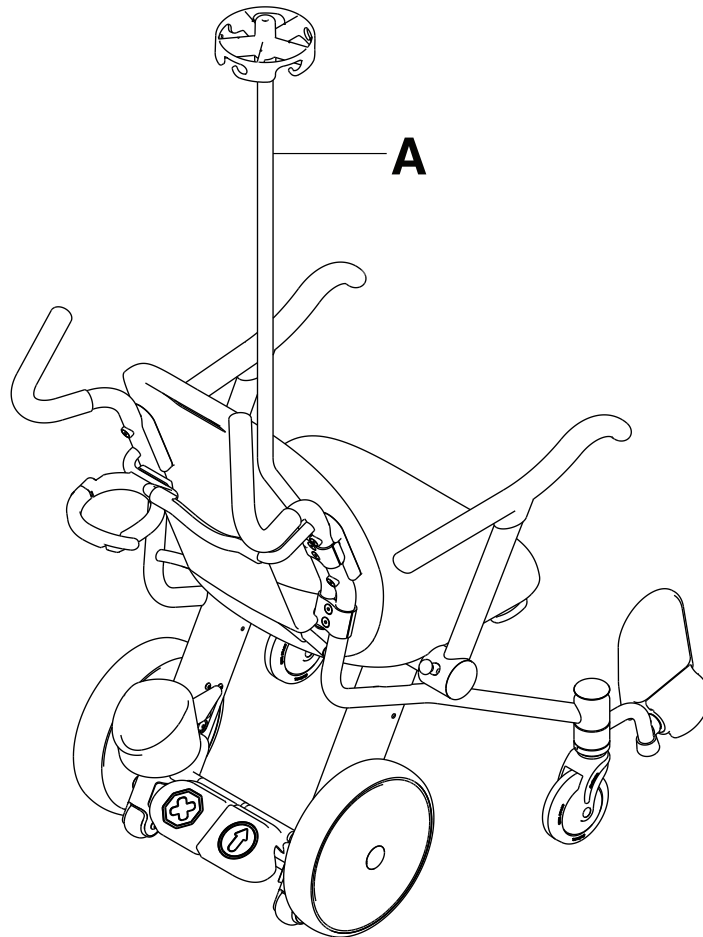

Figure 14: IV pole
1. Pull on the optional IV pole (A) to make sure that it is secure (Figure 14 on page 24).